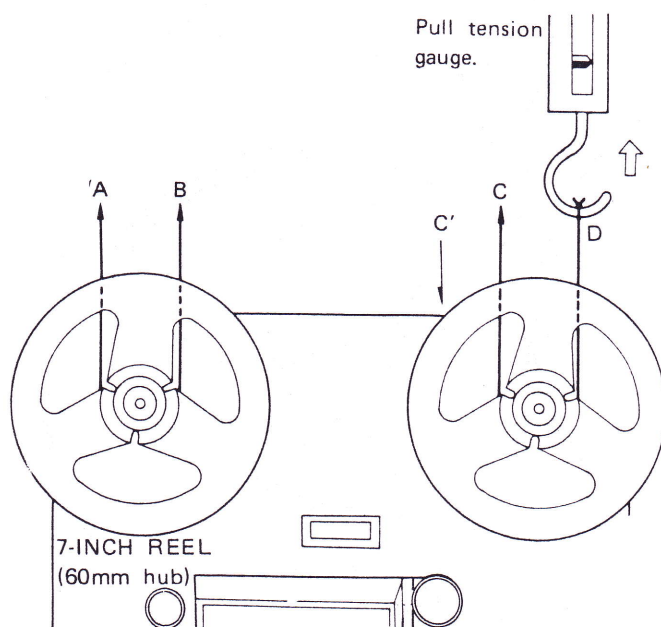

Fig. 20
● Back Tension Torque at Playback (Figs. 20,21)
Measure back tension of supply reel base by pulling tension gauge in B direction as shown in Fig. 20.
● Take-up Torque at Playback (Figs. 20, 21)
2. Set tape deck in vertical position and in playback mode at 7-1/2 ips (19cm/s). Measure take-up torque of take-up reel base (While moving tension gauge slowly in C' direction as shown in Fig. 20, read value of the gauge.)
● Back Tension Torque at Fast Forward (Figs. 20,21)
2. Set tape deck in vertical position in fast forward mode. Measure back tension of supply reel base (pull in B direction as shown in Fig. 20).